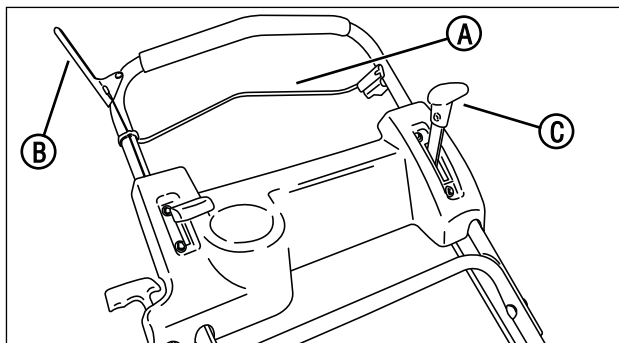

Figure 1: Mower controls
2. Check the blade control (**A, Figure 1**), wheel drive control (**B**), and ground speed control (**C**) to insure they work freely.